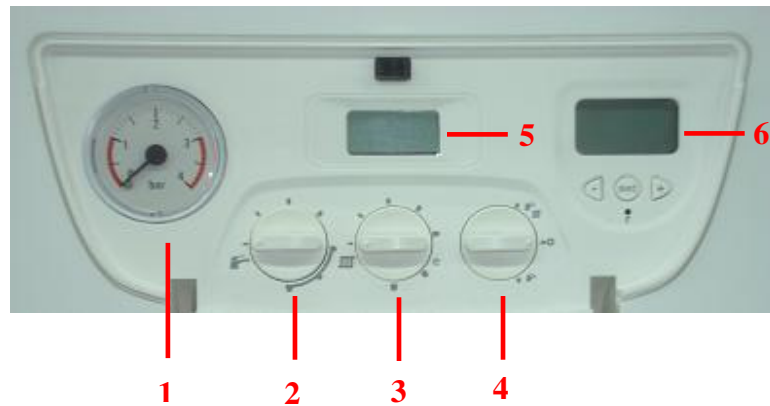

Figure 3
The function and operation of the main controls located on the control panel fascia (figure 3) is as follows:
5.2. Service Mode symbol : Turn selector control knob (4 figure 3) 3 times between C/H setting and the off position (no more than 2 seconds between each turn) the boiler is now in service mode and will stay there for 15mins, turn both C/H & DHW controls to max, this sets the boiler to max output and will not modulate, turn both the controls to min to set the boiler on min without modulation for setting up the default parameters.